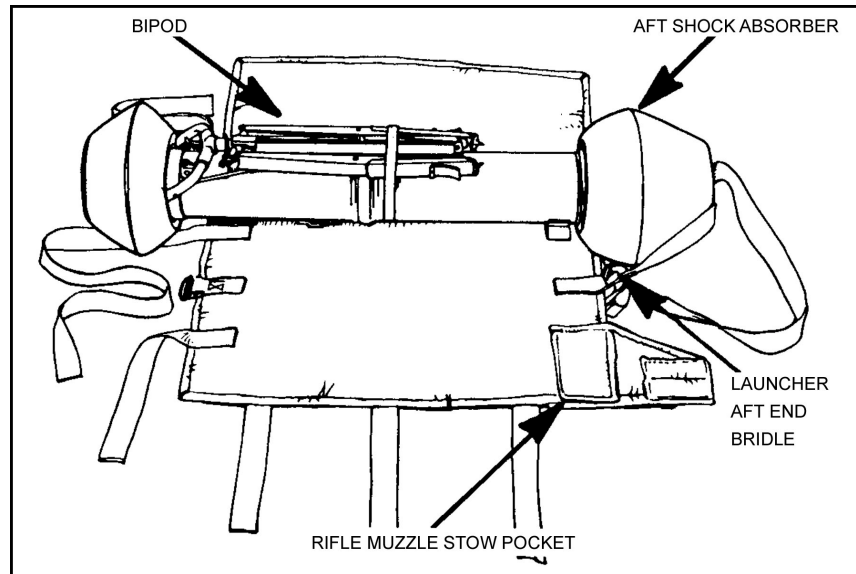

Figure 12-31. Missile being positioned.
- (1) Place the pack with the felt side of the pack body facing up and extend all straps.
- (2) Position the missile in the pack with the bipod facing up (Figure 12-31).
- (3) Fit the aft shock absorber (large end) into the launcher aft end bridle of the jump pack.